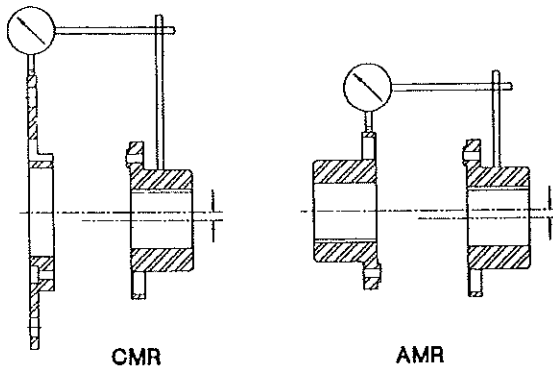

Figure 3
- D. **Parallel Offset.** Rigidly mount a dial indicator on one hub or shaft, reading the other hub flange or flywheel adapter outside diameter, as shown in Figure 3. Compensate for indicator set-up sag. Rotate both shafts together. Adjust the equipment by shimming and/or moving so that the indicator reading is within .002 inch per inch of the axial length between flex elements. See Chart (A).